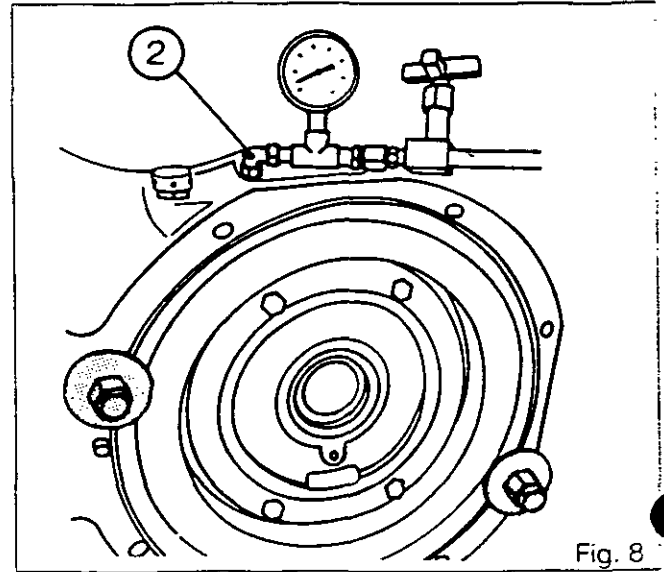

Fig. 8
11. Hold the piston with two large washers and two screws diametrically opposed (Fig. 8).
**Leak test (operations 12 to 15, Fig. 8).**